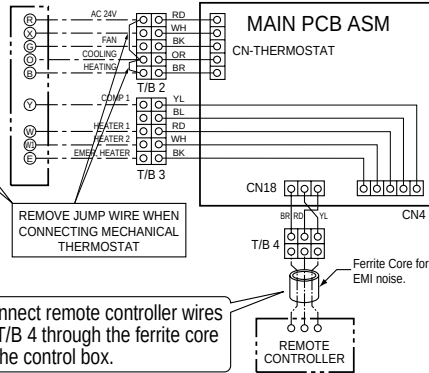

Figure 5E
■ Heat pump - 1 Comp, 2 Heater(Figure 5E) Thermostat(Heat pump model)